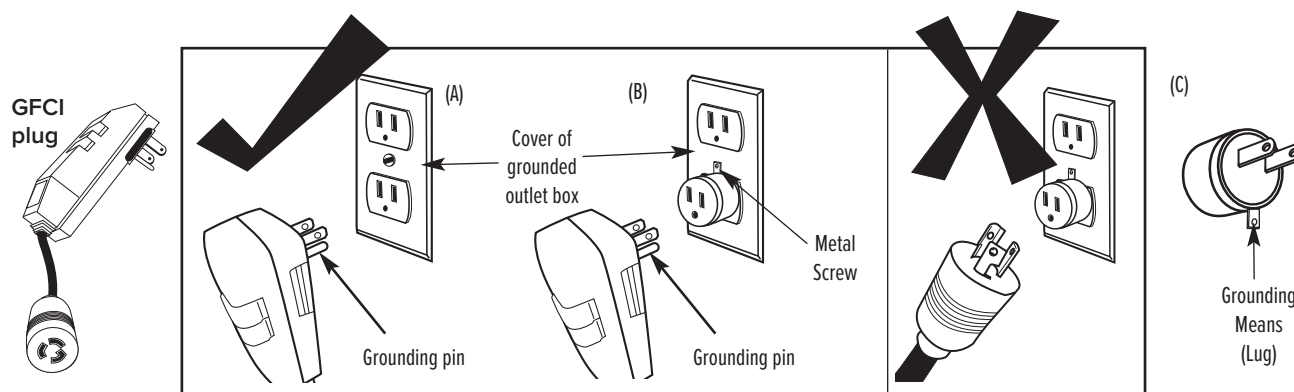

Figure 2
7. This saw is intended for use on a circuit that has an outlet that looks like the one illustrated in Figure 2. The GFCI plug used on the saw has a grounding plug that looks like the plug illustrated in Figure 2(A). A temporary adaptor, which looks like the adaptor illustrated in Figures 2(B) and 2(C), may be used to connect the GFCI plug to a 2-pole receptacle, as shown in Figure 2(B), if a properly grounded